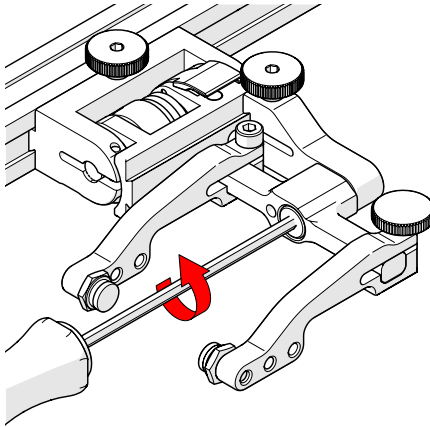

Fig. 204 - Unscrew yoke pivot screw
- Unscrew the yoke from the swing arm (Fig. 204).